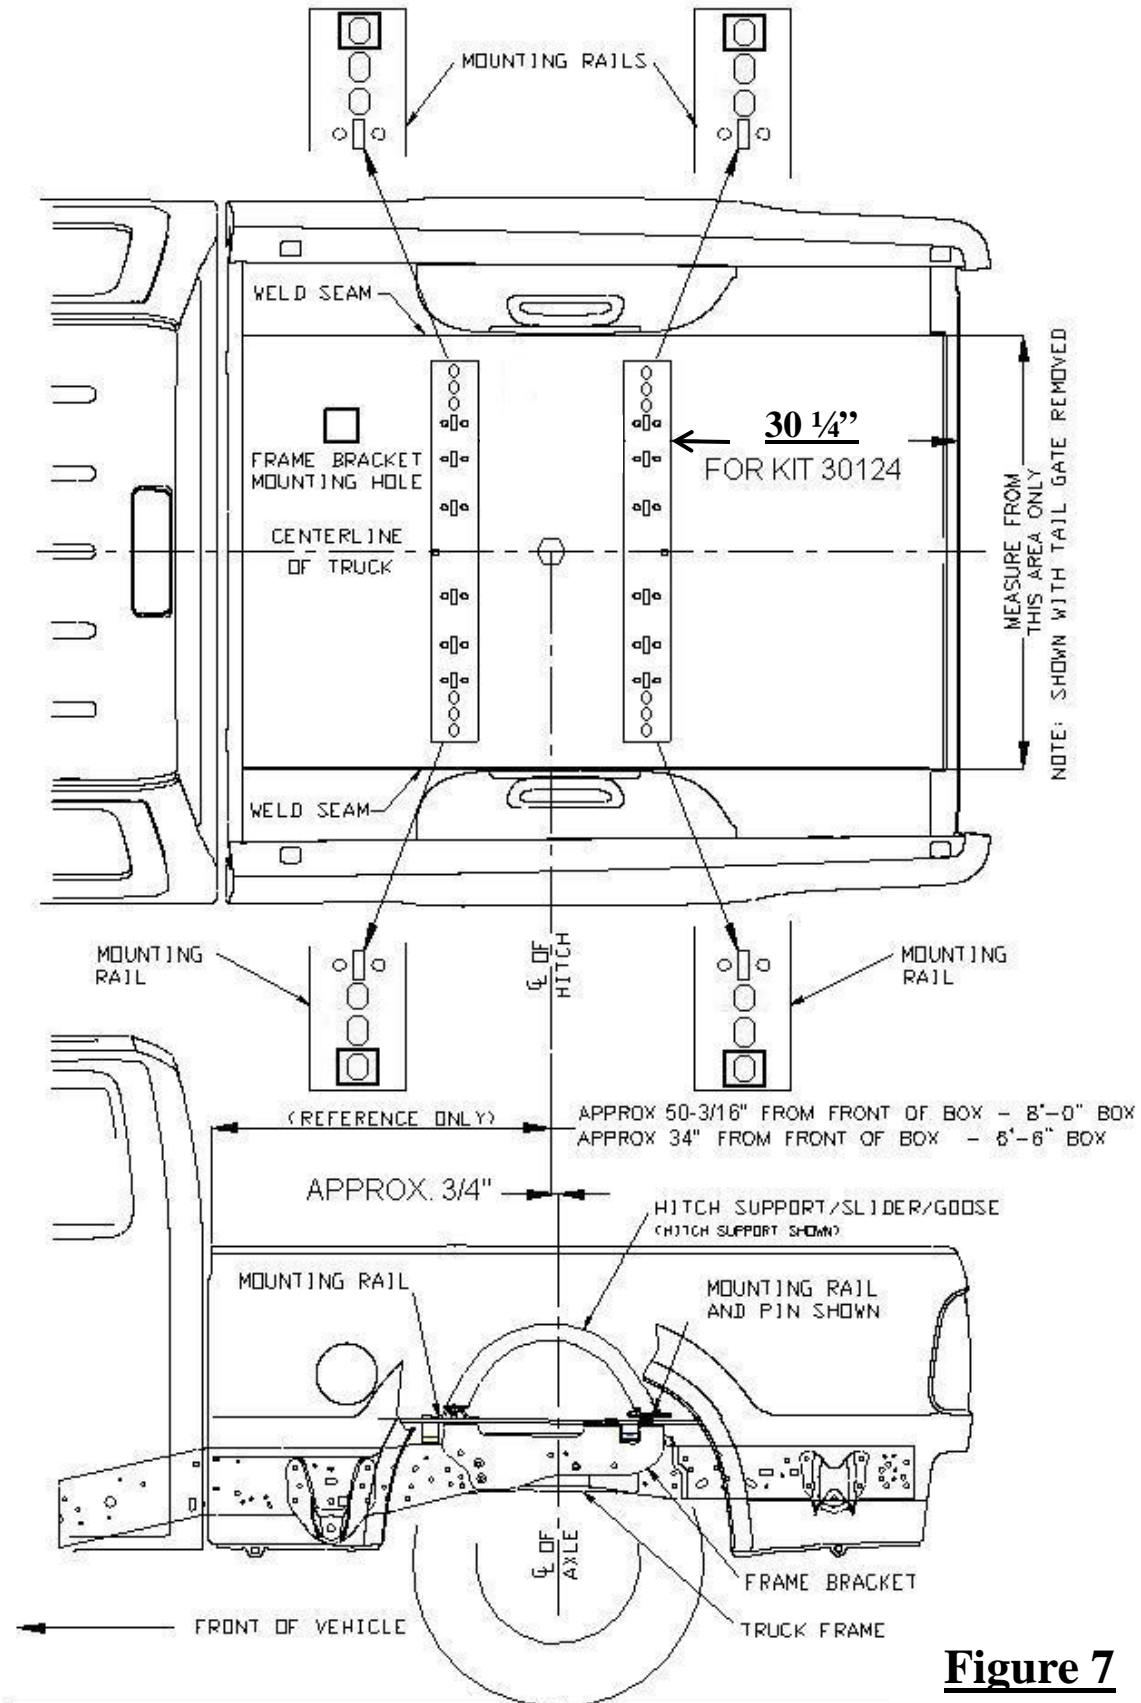

Figure 7
3. Place the front mounting rail in the box of the truck. Using your tape measure, center the rail between the weld seams on the length of the truck box floor and the proper distance from the rear edge of the truck box as illustrated in Figure 7. See page 1 or page 3 for mounting the brackets to the rails and brackets to the frame.
4. Mark and center punch the holes as per the illustration in Figure 7. Move the rail out of the way and drill each position with a 1/8" drill bit. **Warning: When drilling holes be aware of potential risks to vehicle components, such as brake lines and fuel tanks, and make appropriate safe guards to protect them from damage.**